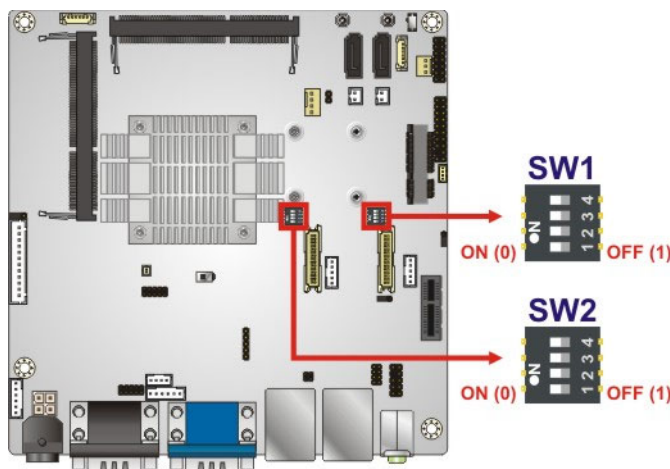

Figure 4-14: LVDS Panel Type Selection Switch Locations
- Jumper Location:** See **Figure 4-14**